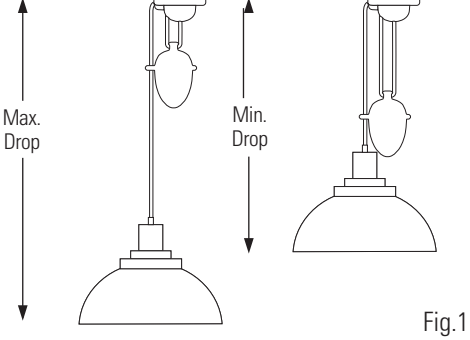

Fig.1
- Determine the maximum drop (the lowest the shade will hang from the ceiling) and total movement (rise and fall) of the shade required (see fig.1). Remember: the larger the maximum drop, the larger the minimum drop (the highest the shade will hang without the weight hitting the shade) and vice versa.